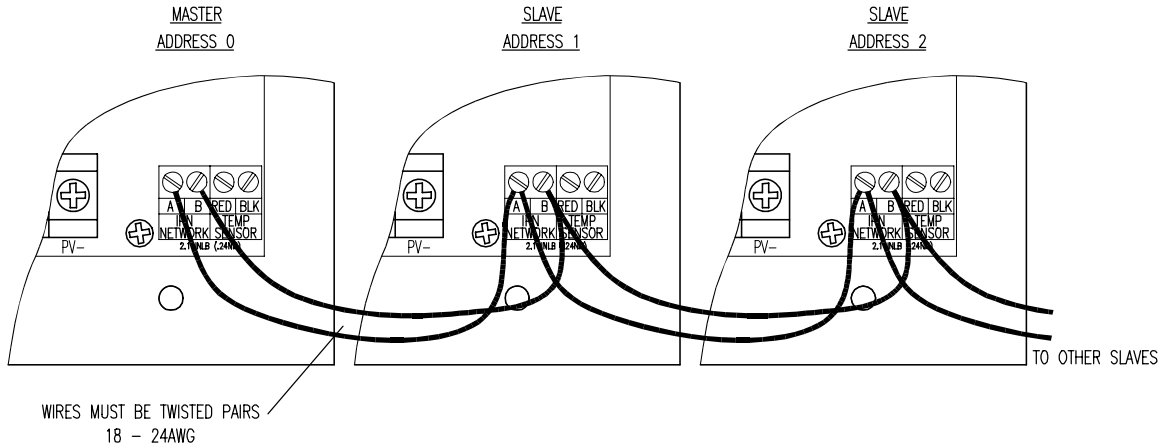

FIGURE 5
A communication link is established between controllers by daisy chaining a twisted pair cable from the IPN Network terminal block, controller to controller (A-to-A, B-to-B) as shown in Figure 5. Up to 8 IPN based charge controllers can be connected together in a multi-controller system. Device address 0 (zero) is the master and 1 – 7 are slaves. The master controls the charging process and directs the activities of the slaves.
- 5) All controllers must be connected to the IPN network as shown in Figure 5.